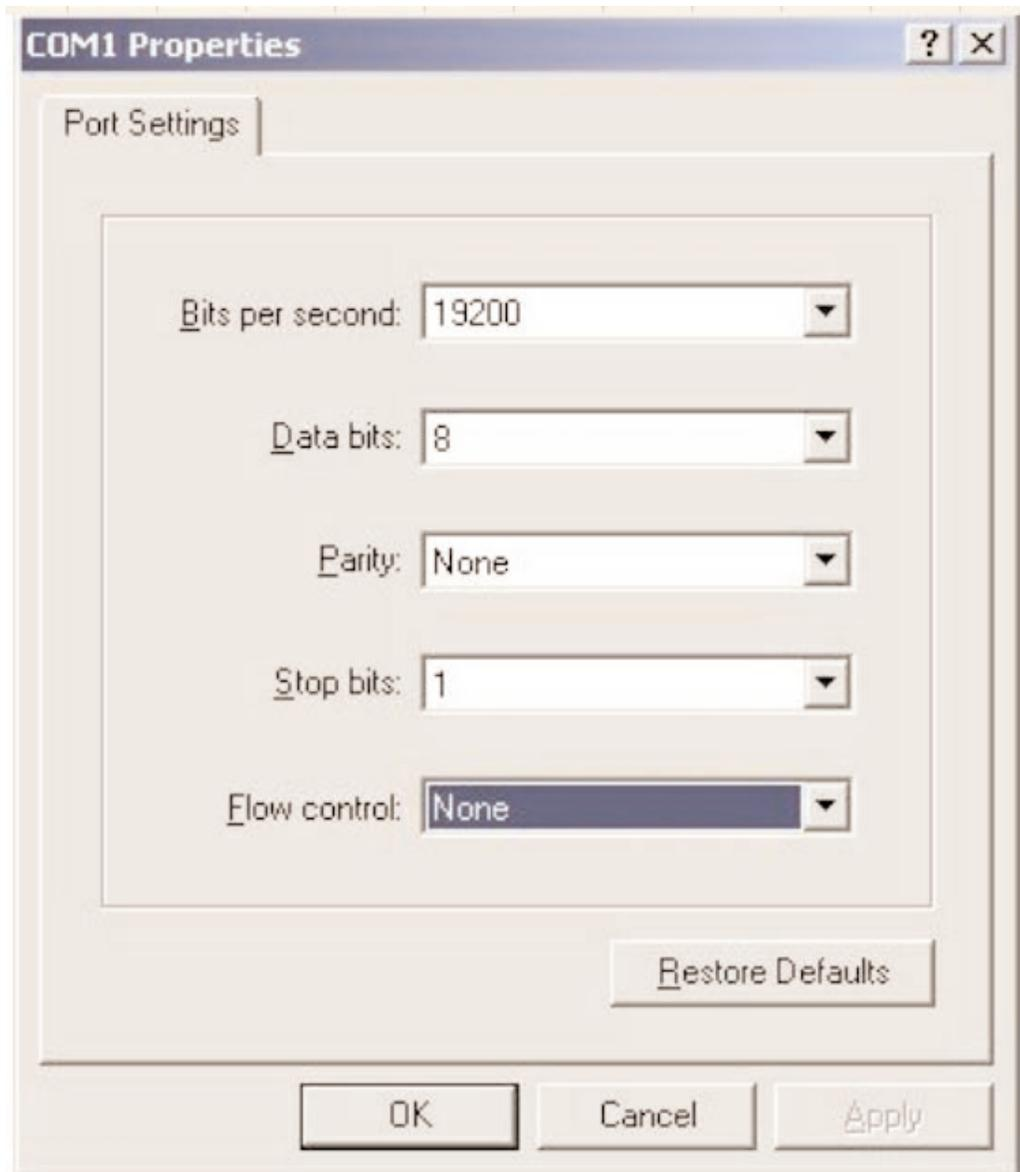

Figure 4-4. COM1 Properties screen, Port Settings tab.
3. Since you won't dial out via a modem, you only need to set the COM port. Select the available COM port (usually COM1) from the drop-down menu in Figure 4-3. Click on the **OK** button to save the COM port selection, or click on the **Cancel** button to start over. If you click on **OK**, the screen shown in Figure 4-4 appears.